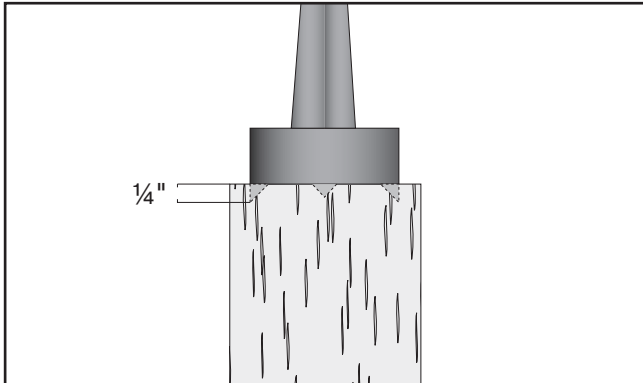

Figure 24. Spur center properly embedded.
6. Drive spur center into end center mark of workpiece with a wood mallet to embed it at least $\frac{1}{4}$ " into workpiece (see **Figure 24**).